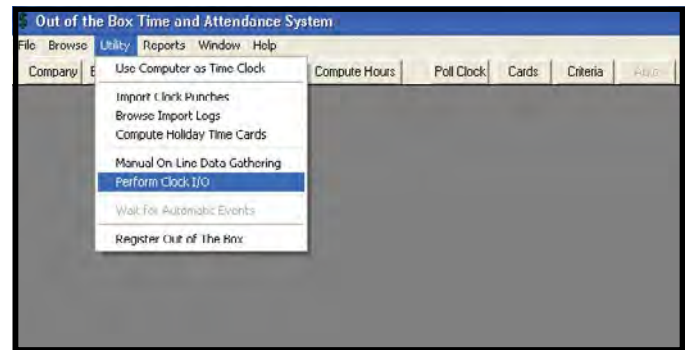

Figure 110. Out-of-the-Box™, Perform Clock I/O
- XII. The communication settings must then be checked via the “Perform Clock I/O” command. Begin by clicking “Utility” > “Perform Clock I/O” (see Figure 110).